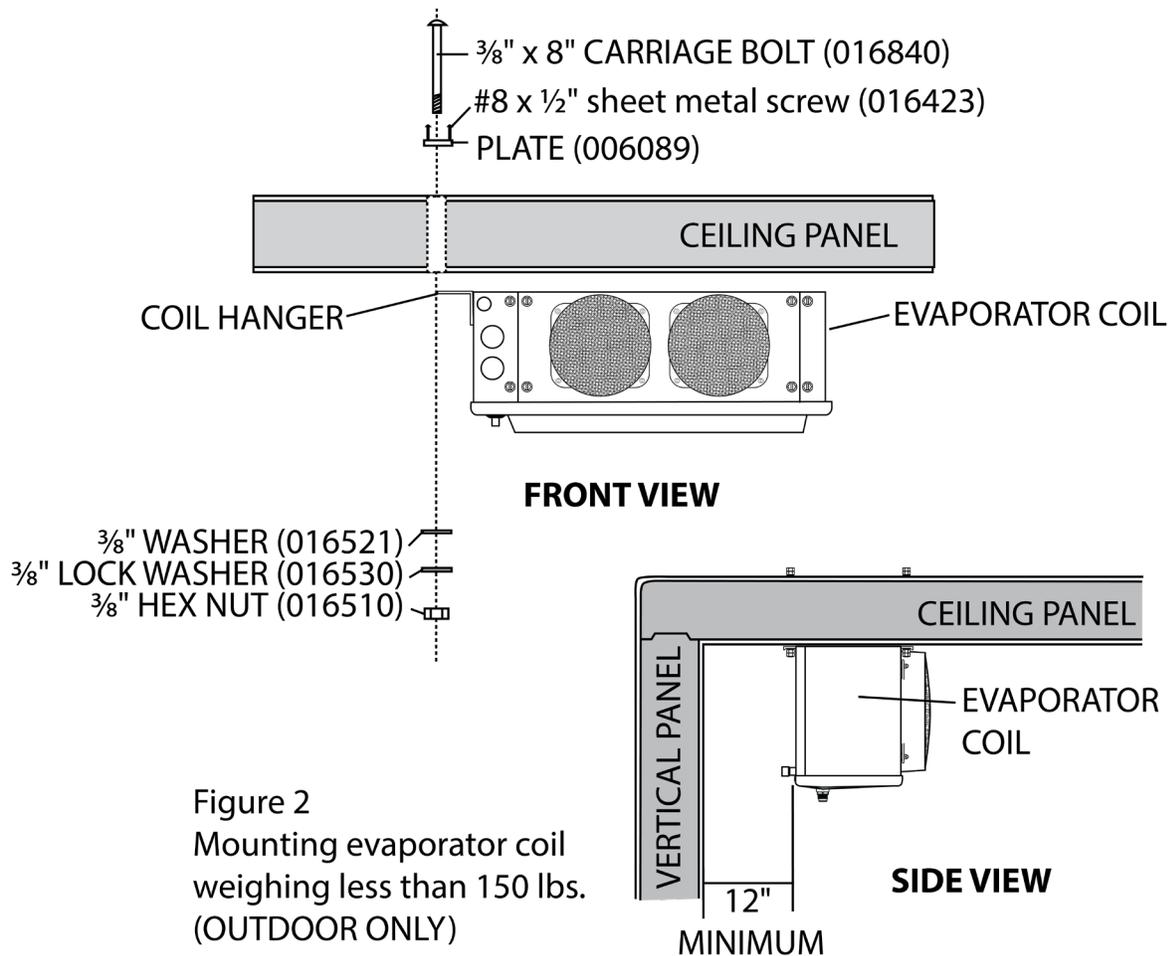

Figure 2
2. Make a paper pattern of the mounting hole spacing of the evaporator coil. Determine where the evaporator is to be placed. (The evaporator coil must be mounted with at least 12" clearance between rear of evaporator housing and vertical wall of walk-in. This will allow sufficient space for air to be circulated over the evaporator.) Using the paper pattern mark mounting holes on the ceiling of the Walk-In. (See Figure 2)
4. Mount plate (006089) on exterior of ceiling panel with (4) #8 x 1/2" sheet metal screws (016423) and mount evaporator coil as shown.